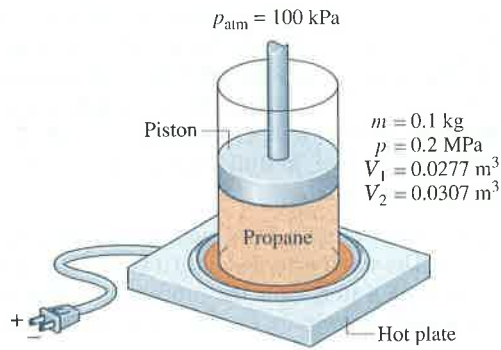

Fig. P3.57
- 3.57** As shown in Fig. P3.57, 0.1 kg of propane is contained within a piston-cylinder assembly at a constant pressure of 0.2 MPa. Energy transfer by heat occurs slowly to the propane, and the volume of the propane increases from 0.0277 m³ to 0.0307 m³. Friction between the piston and cylinder is negligible. The local atmospheric pressure and acceleration of gravity are 100 kPa and 9.81 m/s², respectively. The propane experiences no significant kinetic and potential energy effects. For the propane, determine (a) the initial and final temperatures, in $^\circ\text{C}$, (b) the work, in kJ, and (c) the heat transfer, in kJ.